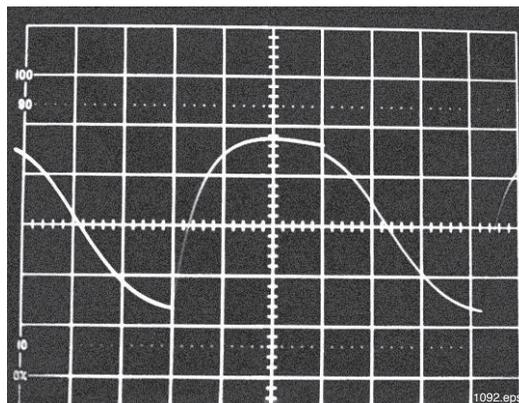

Figure 7.4 Oscilloscope trace showing rise and fall times when a photodiode is used as the detector and penlight as an optical source.
17. Slow the signal generator frequency down to 20 Hz. See **Figure 7.4**